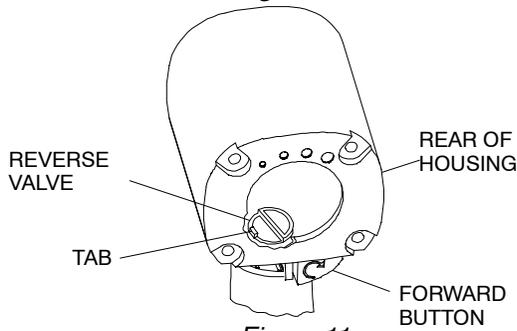

Figure 11 (Dwg. TPD1333)
6. Look through the Housing from the **rear**. If the tab on the Reverse Valve has been rotated to the **left**, install the **right** Button in the Housing. When one Button has been installed, push the Button in. This will rotate the Reverse Valve so that the other Button can be installed. Refer to Figure 11.